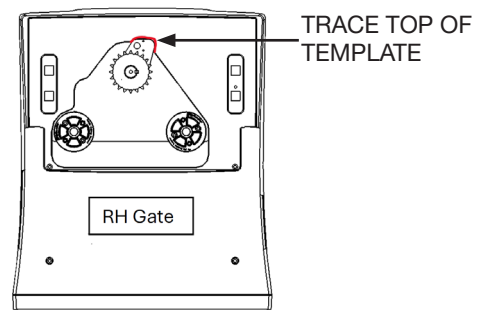

Figure 21. Trace Top of Template
1. Temporarily attach the rear cover using a minimum of two (2) screws.
3. Trace top of template to mark section of cover material that must be removed (Figure 21).